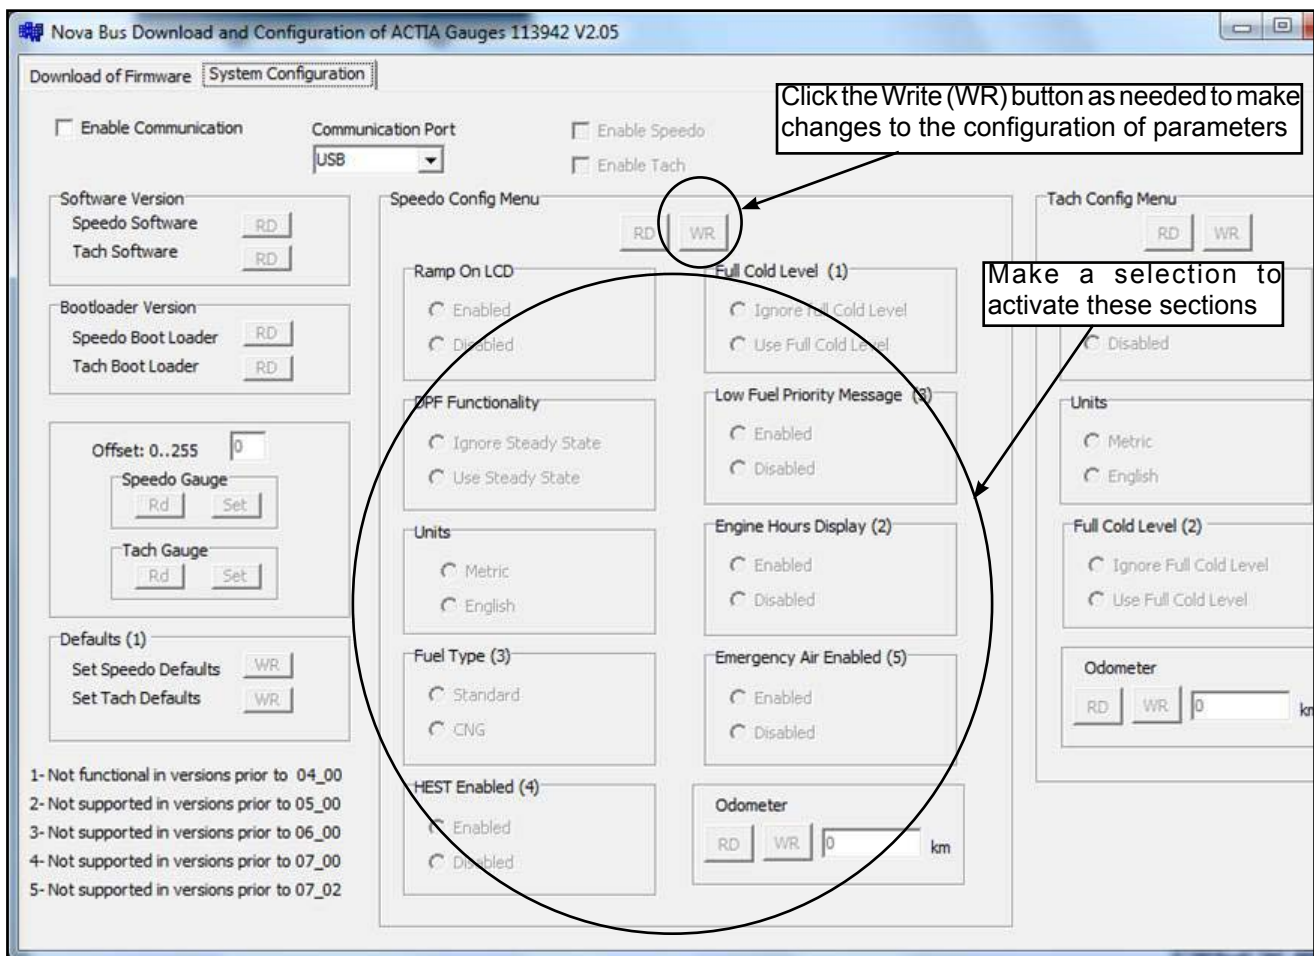

Figure 20 - Adjusting Speedometer Parameters
3.1.15 Check that the software version is correct per the table on page 2. Check whether the Ramp On LCD, DPF Functionality, Units, HEST Enabled, and Emergency Air Enabled parameters are the same as in step 3.1.5. If the configuration remains the same, skip to the next step. If the configuration is different, make the necessary changes then click (WR) to save (see Figure 20).